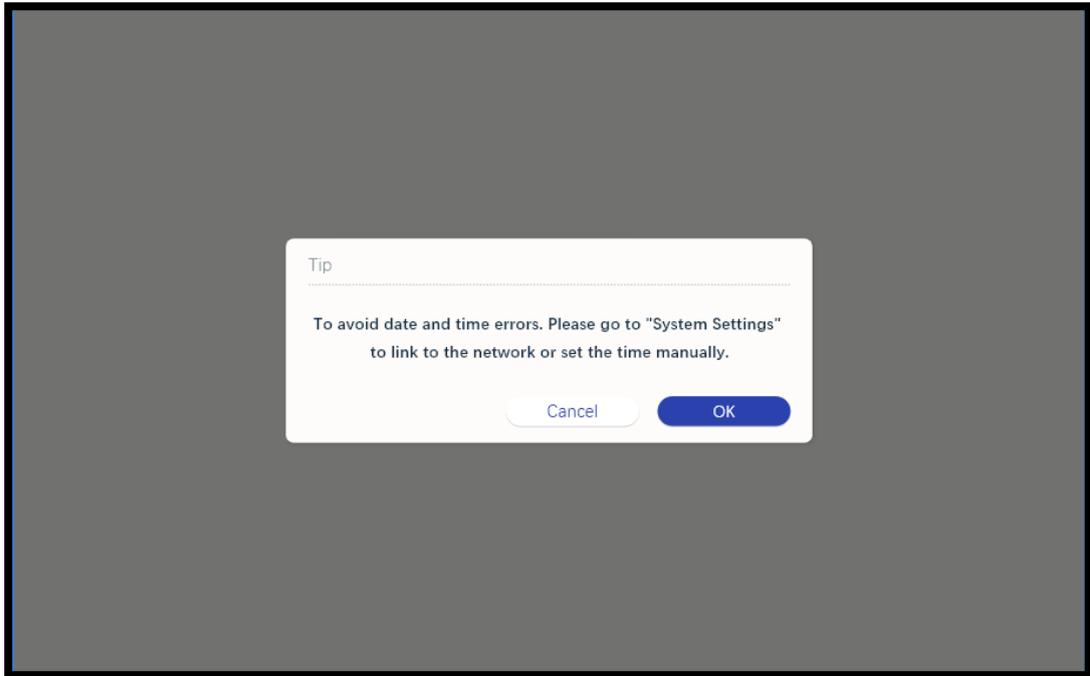

Figure 4-2-2 Start-up tip
- 2) Start-up tip: the first time to enter the program will prompt to synchronize the network and time. (Figure 4-2-2)